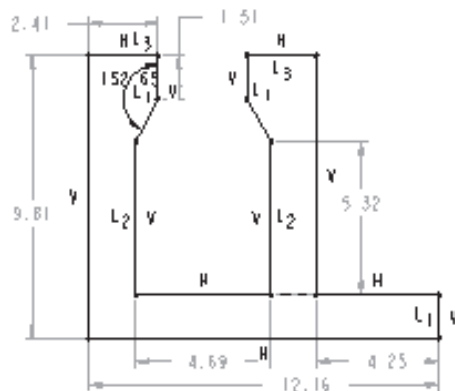

Figure 1-43 Sketch with weak dimensions and weak constraints
Now, continue drawing the remaining lines that are shown in Figure 1-43. When the sketch is completed, end line creation by using the middle mouse button. You will notice that the sketched entities are dimensioned automatically as you draw them. These dimensions are weak dimensions and appear gray in color.
6. Select the vertex that is joining lines L and M and the vertex that is joining lines G and H. Both the vertices are aligned horizontally as shown in Figure 1-43.